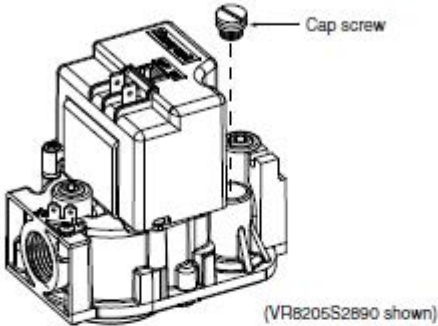

Figure 2. Cap Screw Removal
1. Remove the cap screw from the gas valve as shown in Figure 2.
- Single stage gas valve: Remove the cap screw from the top of the gas valve regulator. See Figure 2 (page 4) for VR8205S2890 or VR8215S1206 models.
2 is achieved. See Figure 2 for VR8205S2890 or VR8215S1206 models. See Figure 4 for VR8205Q2381 models or Figure 5 for VR9205Q1028 models.